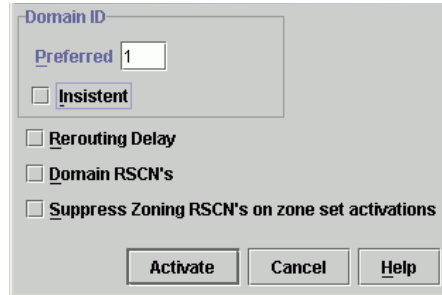

Figure 3-42 Configure Switch Parameters Dialog Box
- d. At the *Hardware View* for the first director or switch reporting the problem, click *Configure* and select *Operating Parameters* and *Switch Parameters*. The *Configure Switch Parameters* dialog box displays (Figure 3-42).